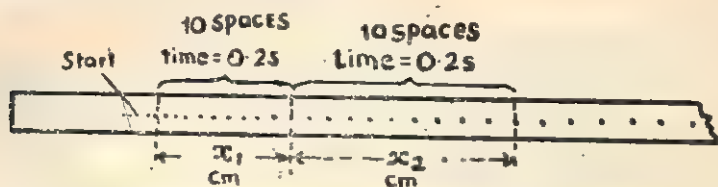

Fig. 8.7. Dots marked by a ticker-tape vibrator, on a paper tape.
Take one of the dotted tapes and ignore first few dots as shown in Fig. 8.7. The distances  $x_1, x_2, x_3, \dots$ , between the ten (10) successive dots are measured. The frequency of the vibrator is  $50\text{ Hz}$ . Thus the tape takes  $1/50 \text{ sec.} = 0.02 \text{ sec.}$ , to cover the distance between two